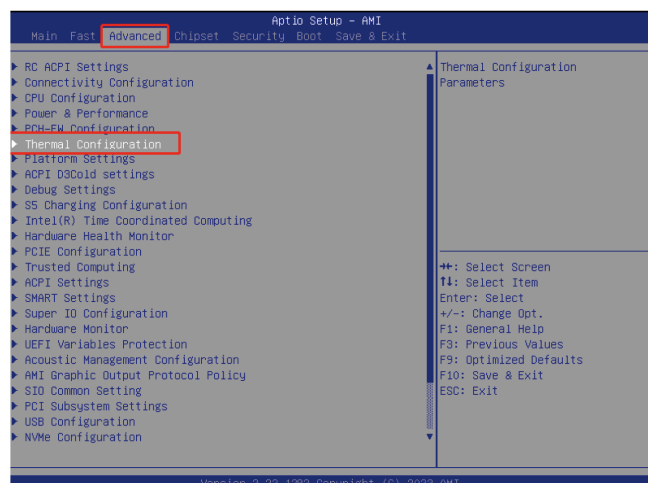

Figure 2-8-3
③ Select the Advanced menu item, press the ↓ key to select the Thermal Configuration item, and press the Enter key to enter. Figure 2-8-3.